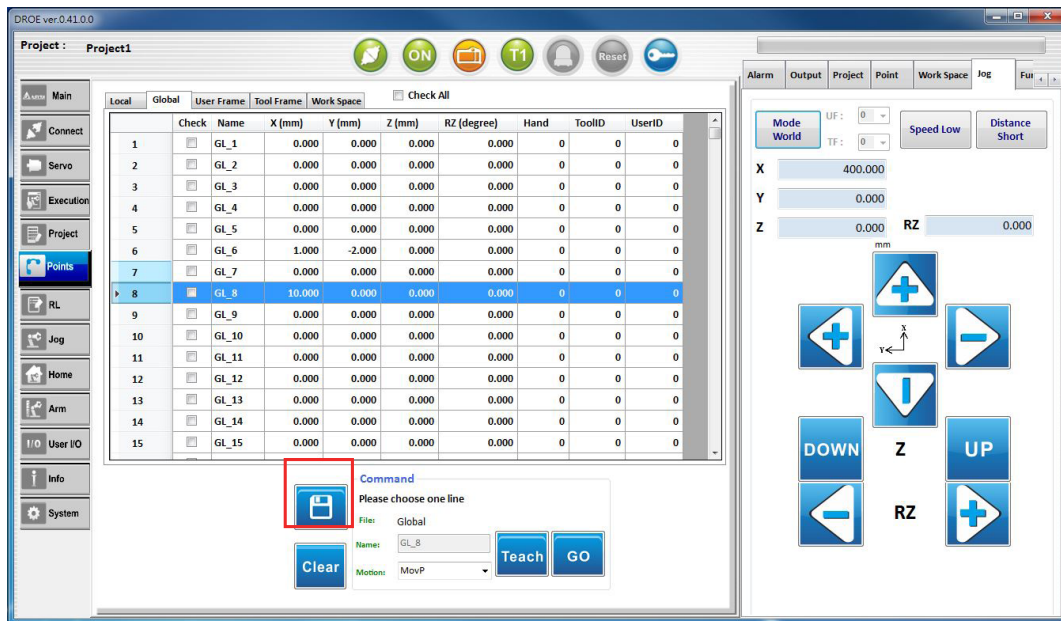

Fig.28 Save (save point position file)
5. Save (save point position file) , as shown in Fig.28: